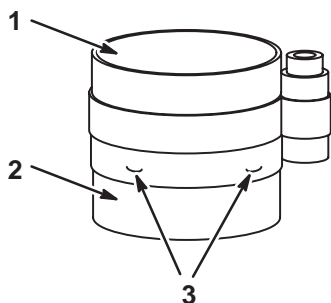

Fig. 126 – Compressing Rings
2. Compress rings with Briggs & Stratton Tool #19070, Ring Compressor, Fig. 126.